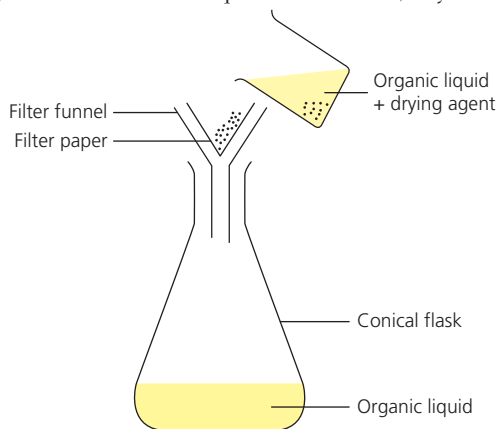

Figure 16 Gravity filtration diagram
- 4 Filter (Figure 16) or **decant** off the liquid into a clean, dry flask.